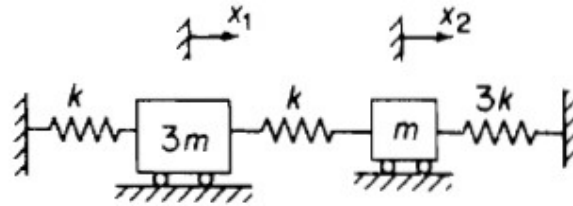

Figure 3
- Q.3(b) Write the equations of motion for the system shown in Figure 3, and determine its natural frequencies. [3] 1,2,3,5 3
- Q.5 Derive the orthonormal normal modes and corresponding modal matrix for the spring-mass system shown in Figure 3. [5] 1,2,3,5 6